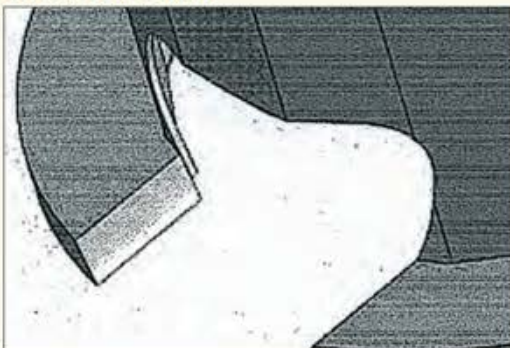

Figure 2. The fillet weld is in the outside-base plate/pole-wall intersection and on the bottom base-plate/pole-wall intersection.
■ **Socket base-plate connection (base plate sleeves over outside of pole wall) with double fillet welds** — The fillet weld is in two places: the outside base-plate/pole-wall intersection and on the bottom base-plate/pole-wall intersection. (See Figure 2, left.) Although other joints are possible, including the